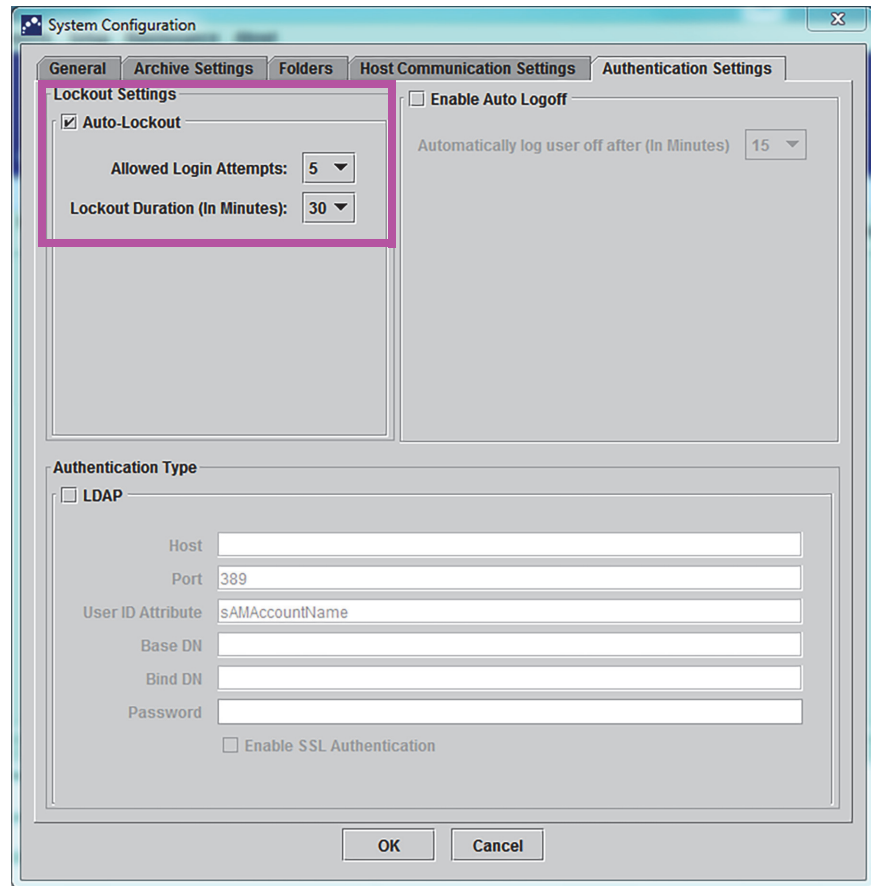

Figure 2-44. Authentication Settings Configured for Auto-Lockout
2. Click the **Authentication Settings** tab; the Authentication Settings information appears. See Figure 2-44.